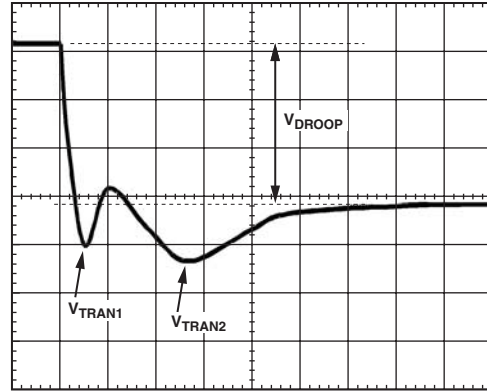
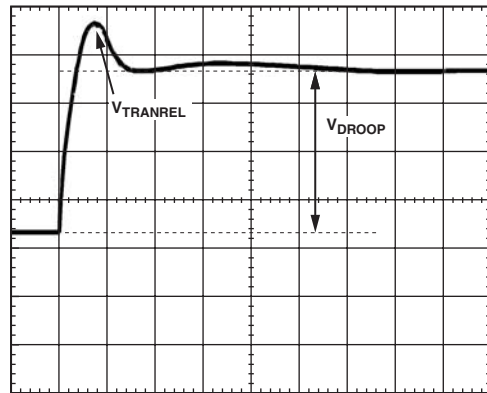

Figure 9. Transient Setting Waveform
Figure 10. Transient Setting Waveform
19. With dynamic load still set at maximum step size, expand scope time scale to see 2 μ s/div to 5 μ s/div. You will see a waveform that may have two overshoots and one minor undershoot (see Figure 9). Here, V_{DROOP} is the final desired value.
21. For load release (see Figure 10), if $V_{TRANREL}$ is larger than V_{TRAN1} (see Figure 9), you do not have enough output capacitance. You will either need more capacitance or to make the inductor values smaller (if you change inductors, you need to start the design over using the spreadsheet and this tuning procedure).